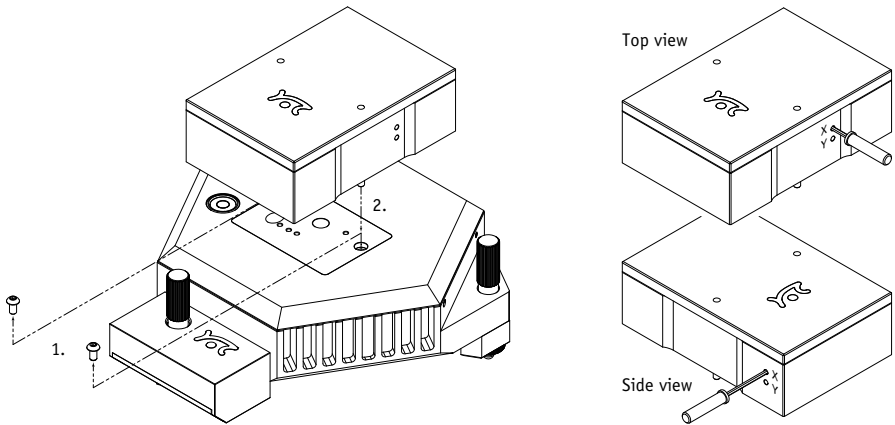

Figure 2-2: Installing the FlexAFM Video Camera. (Left) Mounting the camera. (Right) Centering the video images.
- ❶ Remove the two screw located on opposing sides of the black inlay of the top cover of the FlexAFM scan Head (*Figure 2-2: Installing the FlexAFM Video Camera*, left, 1), using a 2 mm Allen key.
- ❷ Attach the FlexAFM Video Camera to the top of the FlexAFM Scan Head (see *Figure 2-2: Installing the FlexAFM Video Camera*, left, 2) with the screws present inside the two holes on top of the FlexAFM Video Camera, using a 2 mm Allen key.
- ③ Connect the Video Camera USB cable to the mini-USB connector on the FlexAFM Video Camera, but DO NOT connect it to the PC yet.
- ④ Finish all hardware and software installations as described in the remaining sections of this chapter and make sure to perform the hardware recognition procedure (see *Section 2.3: Hardware recognition*).
- ⑤ Return here for the FlexAFM Video Camera image centering procedure outlined below.
- ① Start the SPM Control Software by selecting "Programs" >> "Nanosurf Easyscan 2" >> "Nanosurf Easyscan 2" from the Windows Start menu.
- ② Open the top view via the Video panel (see *Section 9.2: Video panel* (page 128)).
- ③ Use the 1.5 mm Allen key with ball point hex and screwdriver handle (*Section 1.2.1: Contents of the Tool Set* (page 18), item 5) to adjust the center position of the top view (see *Figure 2-2: Installing the FlexAFM Video Camera*, top right).
- ④ Open the side view via the Video panel (see *Section 9.2: Video panel* (page 128)).
- ⑤ Use the 1.5 mm Allen key again to adjust the center position of the side view (see *Figure 2-2: Installing the FlexAFM Video Camera*, bottom right).